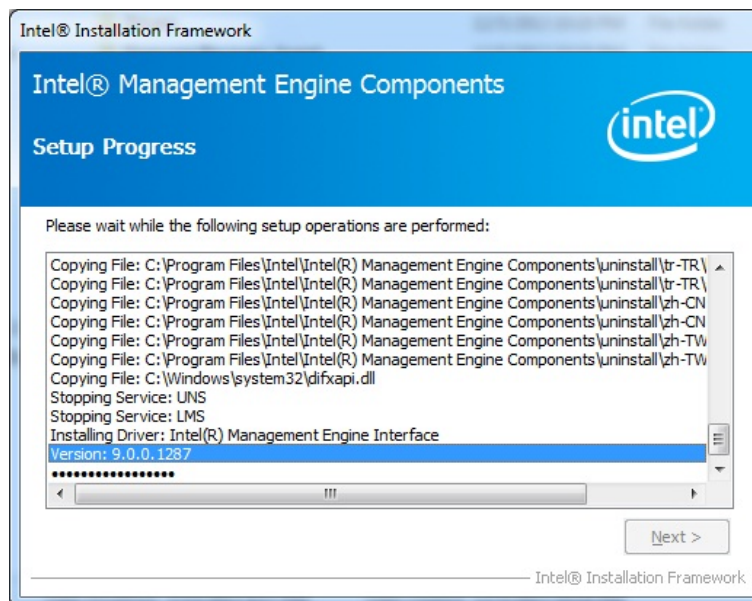

Figure 6-29: Intel® ME Driver Setup Operations
Step 9: Setup Operations are performed as shown in Figure 6-29.